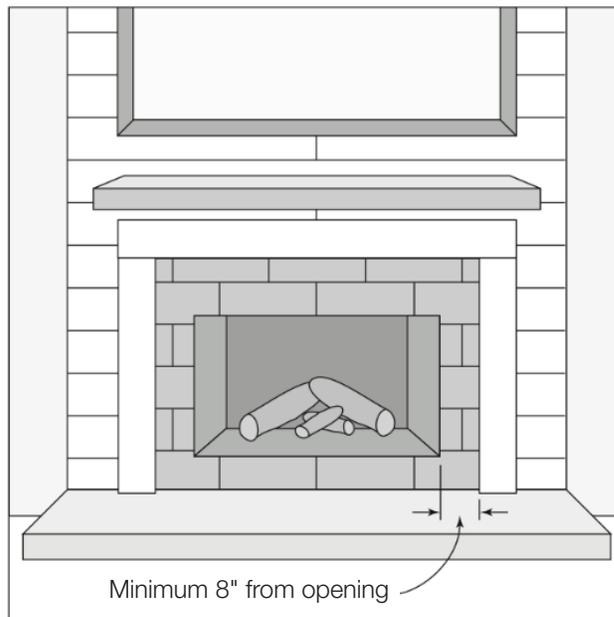

Fig. 45
- Keep TruExterior boards at least 8 inches away from the firebox opening in accordance to 2021 IRC 1001.11 exception 4 (**Fig. 45**)